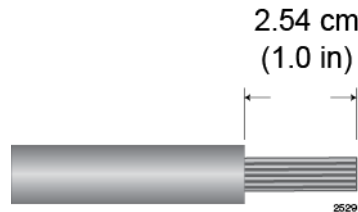

Figure 101. Stripping the solid or Stranded Grounding Wire
1. Prepare an adequate length of solid or stranded 10 AWG grounding wire by stripping it as shown in Figure 101.